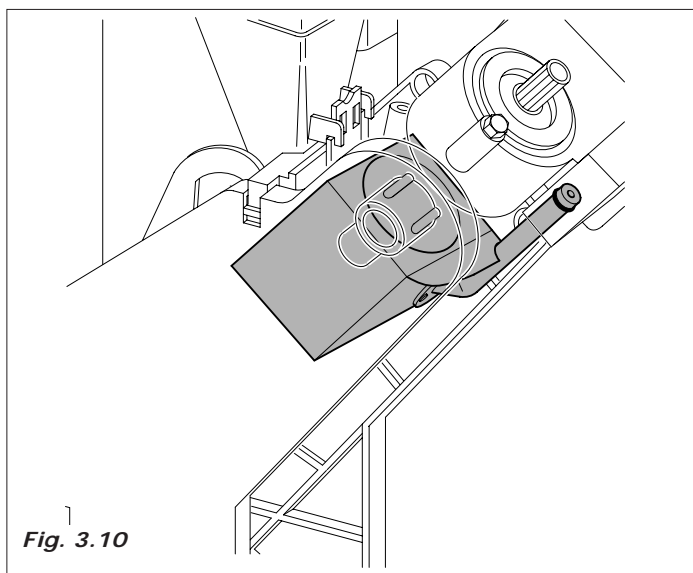

Fig. 3.10
- the coffee group geared motor is activated again so as to bring again into standby position; during this movement the used coffee grounds are expelled (Fig. 3.10).